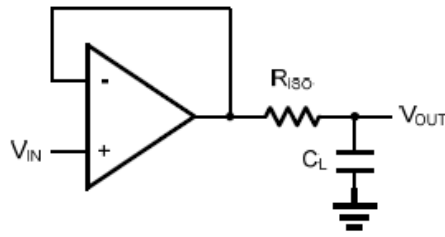
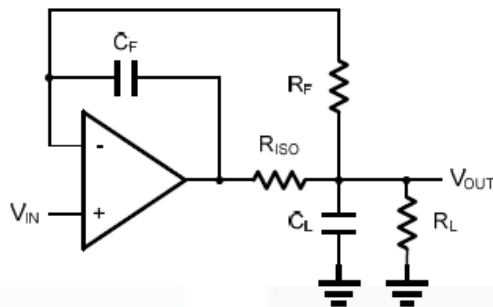

Figure 2 Indirectly Driving a Capacitive Load Using Isolation Resistor
Figure 3. Indirectly Driving a Capacitive Load with DC Accuracy
capacitance and (2) reducing the bandwidth of the amplifier's feedback loop by increasing the overall noise gain. Figure 2 shows a unity gain follower using the series resistor strategy. The resistor isolates the output from the capacitance and, more importantly, creates a zero in the feedback path that compensates for the pole created by the output capacitance.
The bigger the R_{ISO} resistor value, the more stable V_{OUT} will be. However, if there is a resistive load R_L in parallel with the capacitive load, a voltage divider (proportional to R_{ISO}/R_L) is formed, this will result in a gain error. The circuit in Figure 3 is an improvement to the one in Figure 2. R_F provides the DC accuracy by feed-forward the V_{IN} to R_L . C_F and R_{ISO} serve to counteract the loss of phase margin by feeding the high frequency component of the output signal back to the amplifier's inverting input, thereby preserving the phase margin in the overall feedback loop. Capacitive drive can be increased by increasing the value of C_F . This in turn will slow down the pulse response.